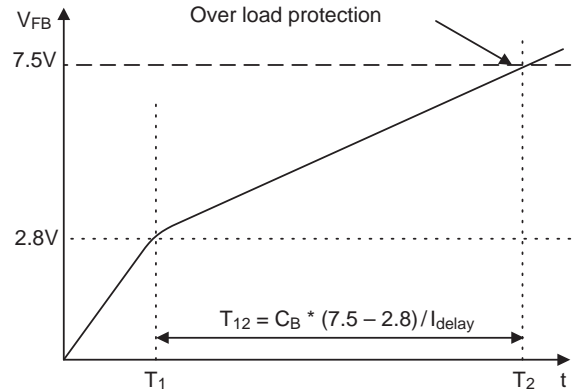

Figure 13. Over Load Protection
4.1 Over Load Protection (OLP): Overload is defined as the load current exceeding its normal level due to an unexpected abnormal event. In this situation, the protection circuit should trigger to protect the SMPS. However, even when the SMPS is in the normal operation, the over load protection circuit can be triggered during the load transition. To avoid this undesired operation, the over load protection circuit is designed to trigger after a specified time to determine whether it is a transient situation or an overload situation. Because of the pulse-by-pulse current limit capability, the maximum peak current through the SenseFET is limited, and therefore the maximum input power is restricted with a given input voltage. If the output consumes more than this maximum power, the output voltage (V_o) decreases below the set voltage. This reduces the current through the optocoupler LED, thus increasing the feedback voltage (V_{fb}). If V_{fb} exceeds 2.8V, D1 is blocked, and the 5 μ A current source starts to charge C_B slowly up to V_{CC} . In this condition, V_{fb} continues increasing until it reaches 7.5V, then the switching operation is terminated as shown in Figure 13. The delay time for shutdown is the time required to charge C_B from 2.8V to 7.5V with 5 μ A. In general, a 20–50ms delay time is typical for most applications. OLP is implemented in auto restart mode.